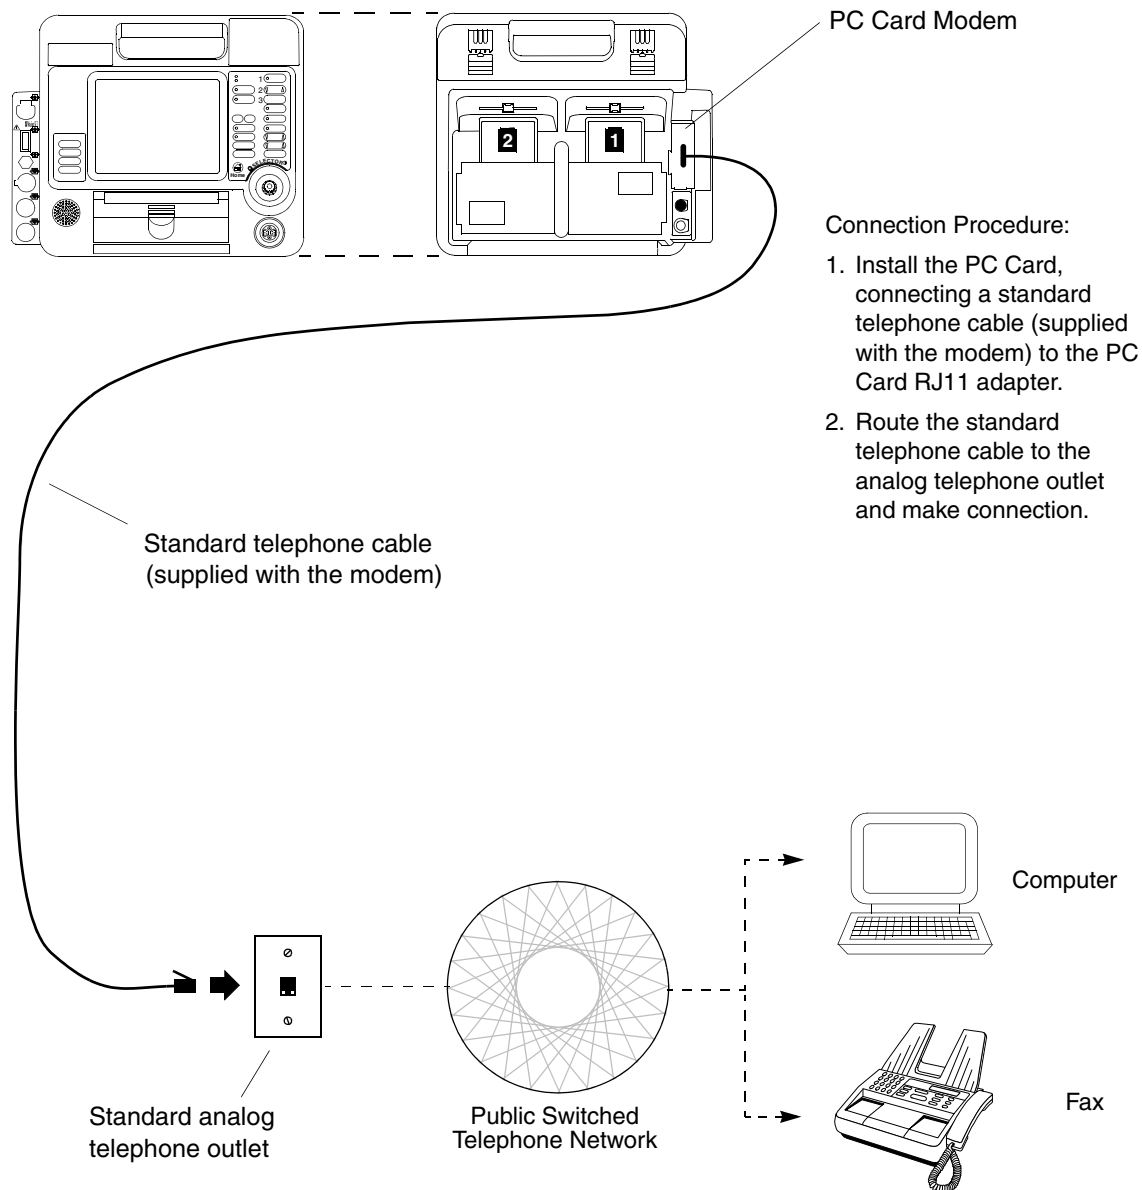

Figure 6-4 Equipment Connections for Internal Modem – Analog Landline
- **Internal** Transmit reports by analog landline telephone using an internal PC Card modem. Requires the following for interconnection (see Figure 6-4):
Figure 6-4 shows you the equipment connections for transmitting reports by analog landline telephone using an internal PC Card modem.